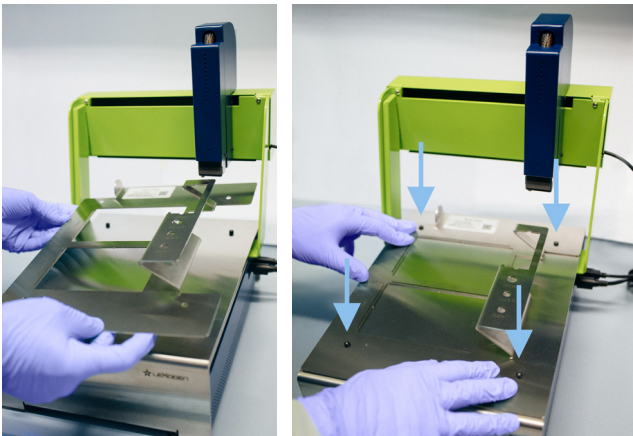

Figure 5. Placement of the base plate on top of the LUTHOR single cell dispenser (left). Clipping of the base plate (right).
- Assemble the base plate (Figure 5).